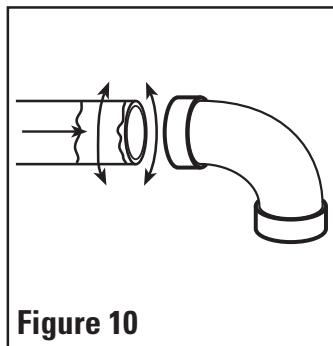

Figure 10
8. Insert tubing with cement into fitting with a twisting motion to ensure the cement has been evenly spread. Check that the tubing is evenly seated in the fitting and is aligned properly with the rest of the line (**Figure 10**).
7. Insert tubing with cement into fitting with a twisting motion to ensure the cement has been evenly spread. Check that the tubing is evenly seated in the fitting and is aligned properly with the rest of the line (**Figure 10**).